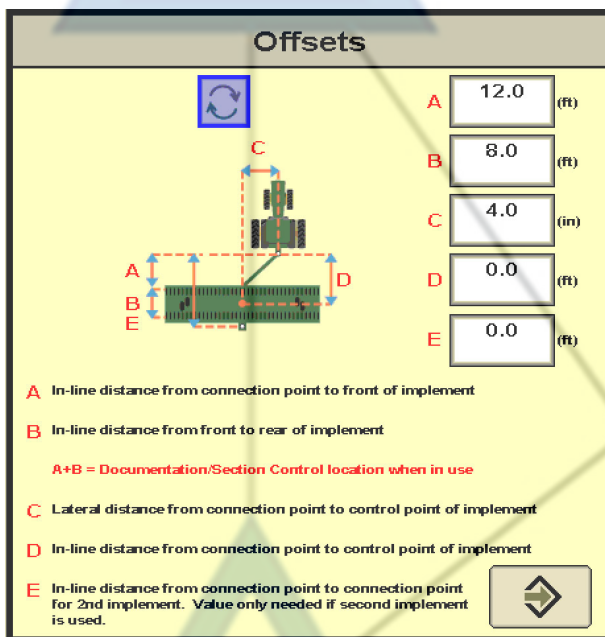

FIGURE 5
4. The offset can be moved left or right as shown in the two pictures below. Select the button to move the offset from one side to another. (Figure 5 & 6)